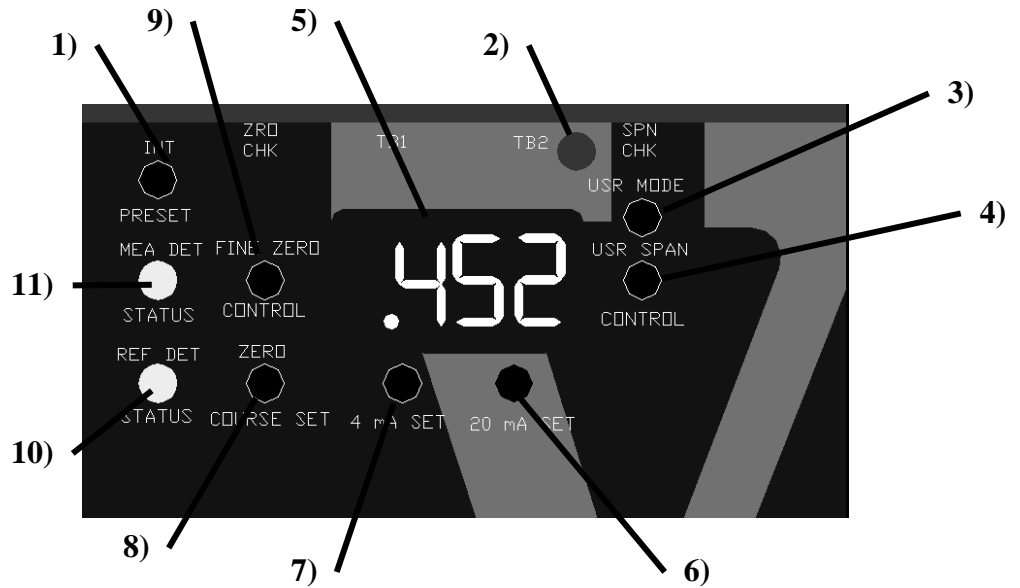

Figure 3-1: Photo-X Front Panel Controls
The front panel controls are used to adjust the display, Zero, initialization of the transmitter, and the 4-20mA output. Figure 3-1, below, identifies the position of each of these controls.
Typically when the user does not know what the expected range or the fluorescent value of the samples use mode 2 initialization. Mode 2 initialization requires the initialization preset switch (refer to Figure 3-1) be held for >8 seconds. In the mode 2 initialization, the ratio of the fluorescent value to the excitation value needs to be spanned properly in the display since this value is unknown the transmitter arbitrarily set to 20 times the original ratio. This is done with or without the probe in a sample. Once a real sample is available, the transmitter range may be determined. Once the transmitter range is known, a calibrated range, using mode 1 operation, may be set.
- a. Press the INT PRESET, located in the upper left hand corner of the Fluorometer (refer to Figure 3-1), for at least five (5) seconds. Please see Section 2 for a description of Mode 2 operation.
- d. Insert the span filter using the SPN CHK button located on the upper end of the Fluorometer housing. When the filter is in place, the FLTR-IN LED will change from green to red. Refer to Figure 3-1.